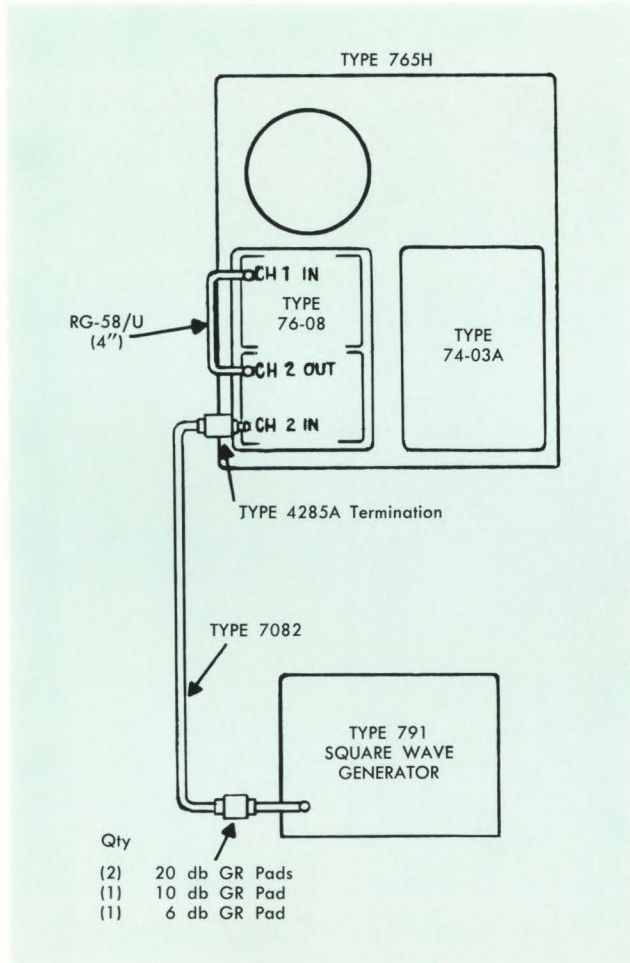

Figure 5-6. Test Setup for Adjusting Trimmer C9707
5-13. CASCADED PRE-AMPLIFIER ADJUSTMENT (C9707) (Figure 5-6)
1. Apply a 100 Kc output from a Fairchild Type 791 Square Wave Generator SOURCE IMPEDANCE switch set to 50 ohms through a 50-ohm cable terminated in a Type 4285A Termination to Channel 2 Input connector. Connect GR pads totaling 56 db (6 db + 10 db + 20 db + 20 db) in series with the cable. See Figure 5-6.